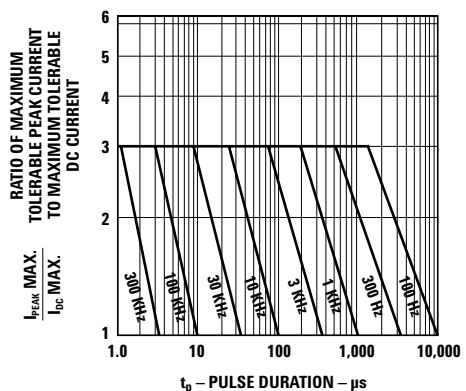

Figure 5. Maximum tolerable peak current vs. pulse duration. (I_{DC} MAX as per MAX ratings).
- See Figure 5 (Red), 10 (Yellow), or 15 (Green) to establish pulsed operating conditions.